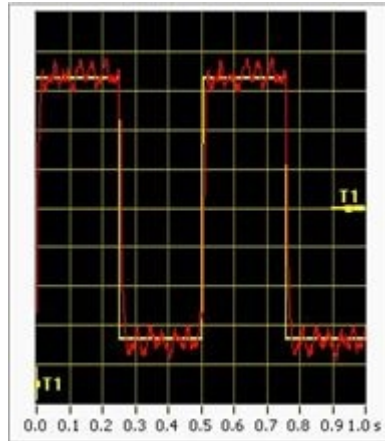

Figure 9-3. Example Scope Display of Well Adjusted Velocity Loop
5. Check the Scope display, the ideal display is a square wave as shown in Figure 9-3.